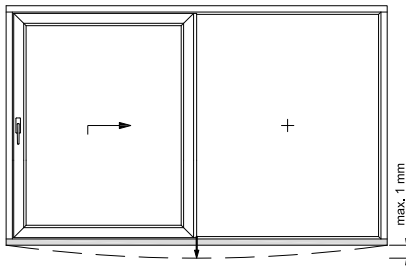

Fig. 1 In order to ensure the proper functioning and durability of the element, the maximum permissible deflection of the frame or base profile is 1 mm.
1.1 Maximum deflection of frame or base profile: **±1 mm** (Fig.1).